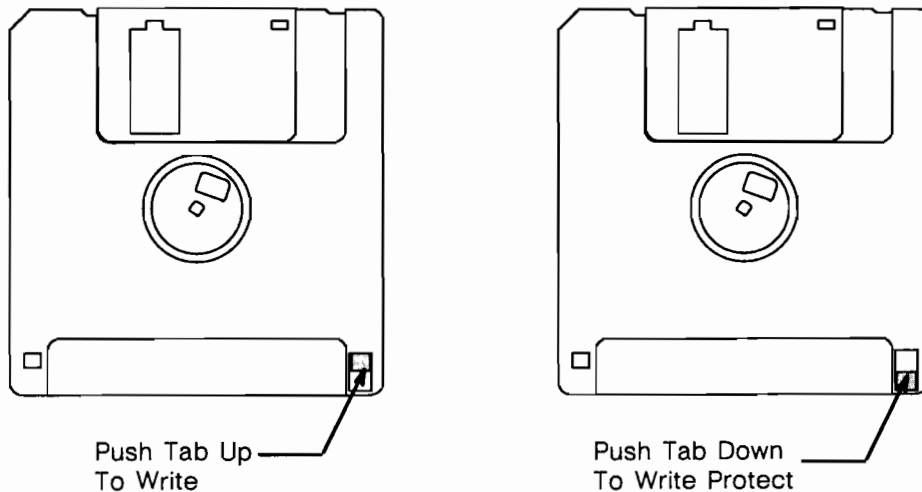

Figure 4-1. Setting the Floppy Diskette Write/Write-Protect Tab
2. You can only store or change information on a diskette when the write-enable notch is exposed. So, before performing a write (store) operation, make sure that the notch is exposed (remove the paper tab that covers the notch) as shown in Figure 4-1. (To write-protect the data, place the paper tab over the write-enable notch.)
5. If you want to write-protect your diskette (protect the files on the diskette from changes or additions), cover the write-enable notch with a write-protect tab as shown in Figure 4-1.